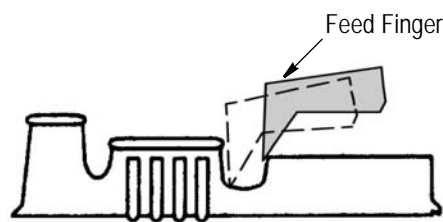

Figure 9
have enough over-travel on the backstroke to pick up the next terminal, but not so much over-travel that the feed finger moves up onto the body of the terminal. See Figure 9.
- c. Using the backstroke adjustment knob (see Figure 2), position the feed finger to the proper back position, typically the end of the wire barrel. See Figure 9. If the end cap is in place, use a 3-mm hex wrench or small screwdriver to reach through the end cap to rotate the feed adjustment knob. The adjustments are in 0.08-mm [.003-in.] increments or 30 degrees and can be felt as clicks.